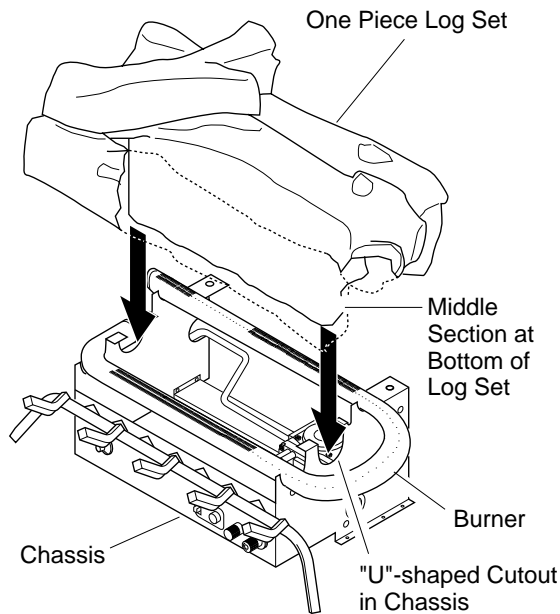

Figure 17 - Installing Golden Oak One-Piece Log Set
1. Place one-piece log set on grate to fit as illustrated in Figure 17. Make sure middle section at bottom of log set is seated into "U"-shaped cutout in center of chassis (see Figure 17). *Note:* 36" model has more features but fits on the chassis the same. Log will fit securely on chassis. **IMPORTANT:** Make sure log does not cover any burner ports.